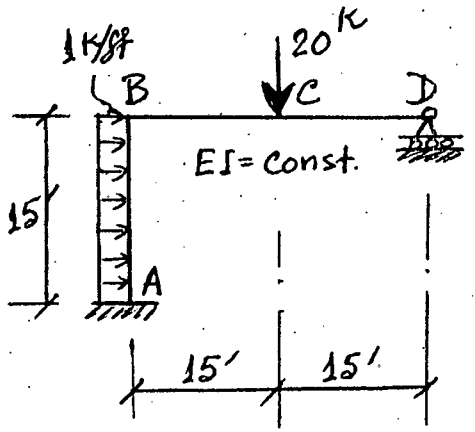

Fig. 9
10. Using method of consistent deformation, draw axial force, shear force and bending moment diagrams for the frame shown in Fig. 9. EI is constant throughout. Neglect axial force effect. (21)